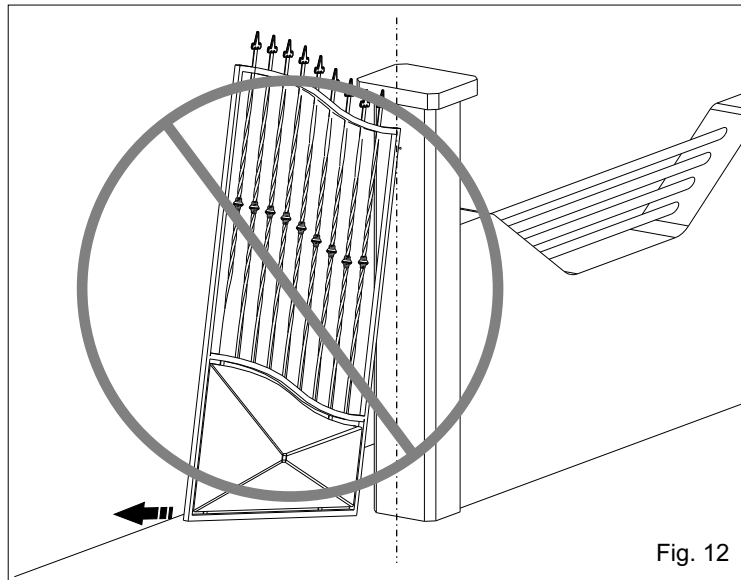

Fig. 12
3.8. Be careful not to place the leaf outside the axis (Fig. 12 and 13), but make sure the shaft corresponds to the hinge rotation axis and follow the quote mentioned in Fig. 14 closely .